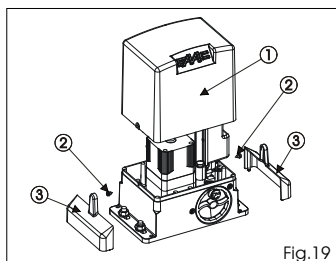

Fig.19
Once installation of the operator has been completed, make a careful functional check of all accessories and safety devices connected. Move the board support back to its original position. Position the protective casings (Fig.19 ref.1), tighten the two side screws supplied (Fig.19 ref.2) and insert, under pressure, the supporting side pieces (Fig.19 ref. 3).